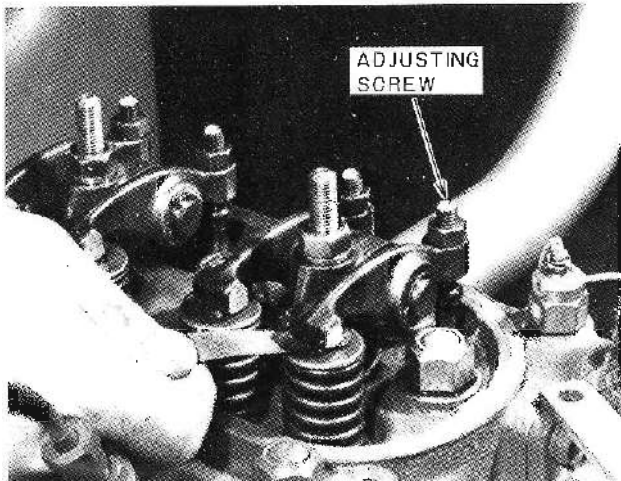

Figure 58 — Checking Valve Clearance
2. With the engine idling, check the clearance of each valve with a step-type feeler gauge, Figure 58.